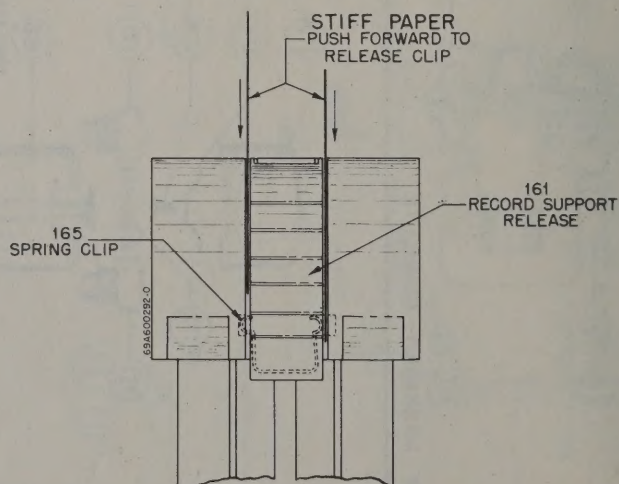

FIGURE 13. REMOVAL OF RECORD SUPPORT RELEASE
in place with a spring clip (165). To release the clip, place a piece of stiff paper on both sides of the release hinge, between the release hinge and the slide cover (159). See Figure 13. Pull the paper forward, simultaneously lifting upward on the release hinge.
2. Remove the four machine screws (164) holding the slide release hinge bracket (162).